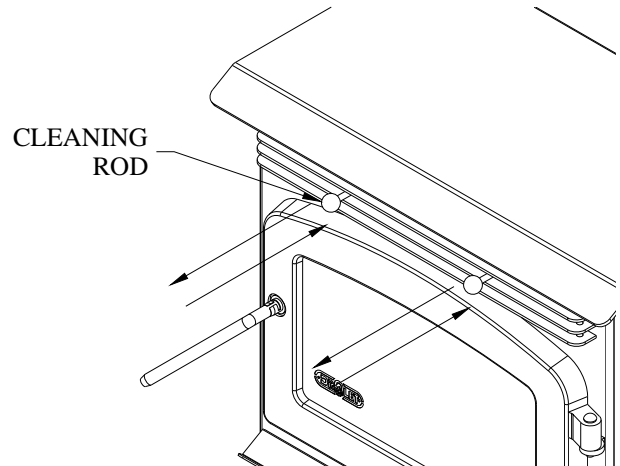

Figure 18
- c. With the door closed, clean heat exchanger tubes by activating the cleaning rod back and forth (Figure 18).
- Heat Exchange Tubes** – Your ECO-35 stove is designed with a built-in heat exchanger tube cleaner. This should be used weekly to remove accumulated ash on the tubes. Slide the cleaning rod back and forth two or three times from front to back (refer to figure 18). When finished, push the cleaning rod back in.